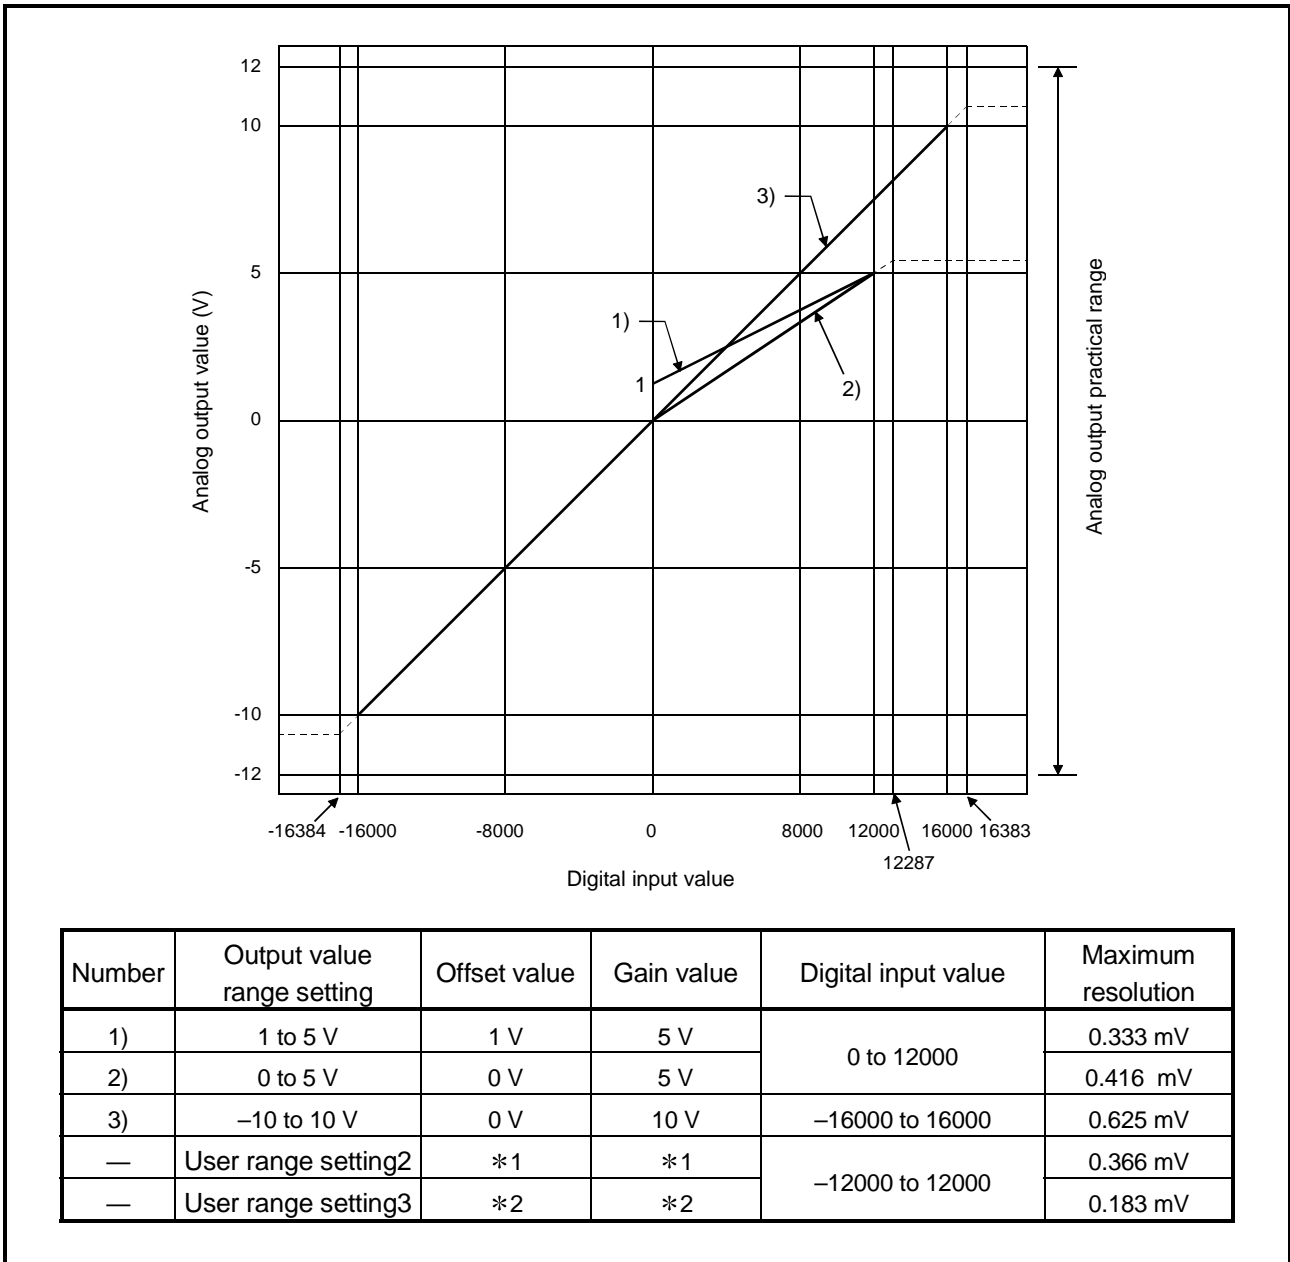

Figure 3.1 Voltage output characteristic
Figure 3.1 shows a graph of the voltage output characteristic.
<p>(1) Set within the digital input range and analog output range for each output range. If these ranges are exceeded, the maximum resolution and accuracy may not fall within the performance specifications. (Avoid using the dotted line area shown in Figures 3.1.)</p> <p>(2) Set the offset/gain values for the user range setting2 *1 within a range in which the following conditions are satisfied.</p> <ul style="list-style-type: none">(a) Setting range is from -12 to 12 V.(b) $\{ (\text{Gain value}) - (\text{Offset value}) \} > 4.5\text{A}$ <p>(3) Set the offset/gain values for the user range setting3 *2 within a range in which the following conditions are satisfied.</p> <ul style="list-style-type: none">(a) Setting range is from 0.5 to 6 V.(b) $\{ (\text{Gain value}) - (\text{Offset value}) \} > 3\text{A}$
(2) Current output characteristic